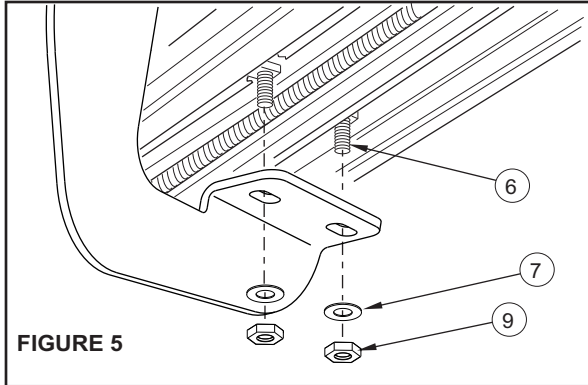

FIGURE 5
- STEP 5. Attach board to brackets as shown. Make sure board and brackets are properly aligned and tighten fasteners. Recommended torque values are 10 FT.LBS. for 5/16" square head fasteners and 23 FT.LBS. for 8MM fasteners. SEE FIGURE 5.